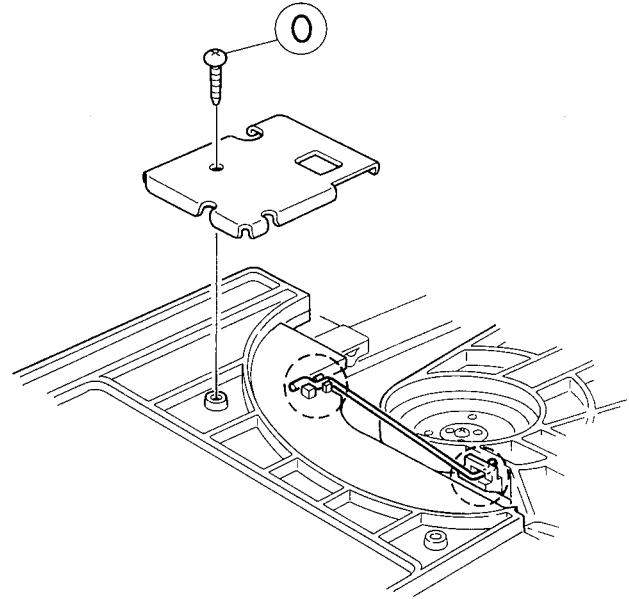
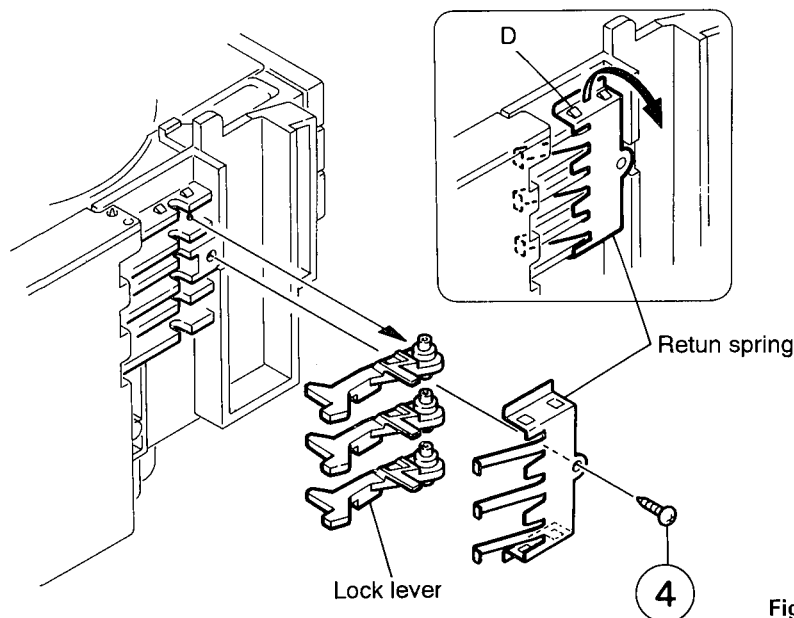

Fig. 2-12
Fig. 2-14
(See Figs. 2-12 to 2-18)
4. Remove one screw (O) retaining the plate.
5. From the T. bracket section (A) and clamber base section (B), remove both of the edges fixing the rod (See Figs. 2-12 and 2-13)
6. Remove the three screws ① retaining the T. bracket (See Fig. 2-12)
7. From the left side face of the chassis assembly, remove the one screw ④ retaining both of the return spring and lock lever.
8. By removing the pawl at the section (D) fixing the return spring, dismount the return spring (See Fig. 2-14).